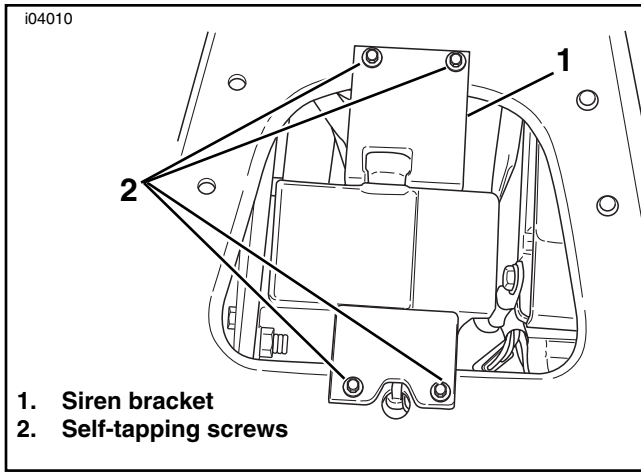

Figure 1. Removal of Siren Bracket (2003 and earlier)
4. See Figure 1. Position Siren bracket.
If the pager is being used as a silent paging system only (no siren installed), it will be necessary to purchase separately a siren bracket (part number 70470-01A) and four self-tapping screws (part number 2501A) in order to mount the pager transmitter. For 1996-1999 Dyna Glide Models Only, See Figure 1. Carefully center the siren bracket on the frame pan as shown. Use the siren bracket as a template to transfer the location of the four mounting holes to the frame pan. Remove the siren bracket and drill (4) 9/64" (.141mm) holes at the locations transferred from the siren bracket. For 2000 - 2003 Dyna Glide Models Only: The required holes in the frame pan are already provided. Proceed to Step 8.
5. See Figure 1. Remove and retain four self-tapping screws, and flip the bracket over.